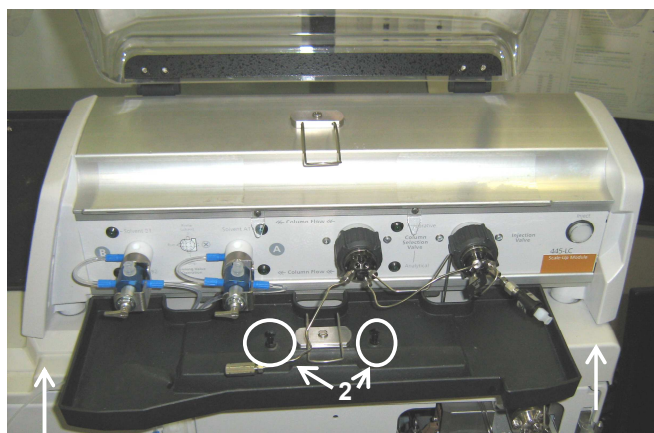

Figure 4: Removing the spill tray from the SUM
3. Once the SUM is on top of the 940-LC system, then proceed to remove the spill tray (this will make it easier to connect the plumbing to the system). The spill tray can be removed by popping the 2 fastening buttons (2) up and then gently lifting the tray out of the tray frame (Figure 4).